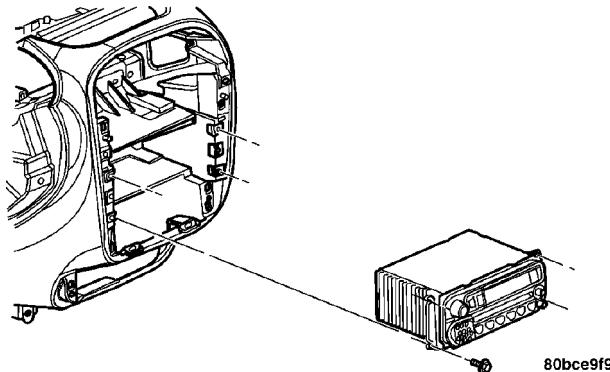

Fig. 4 Radio Remove/Install
(1) Disconnect and isolate the battery negative cable.
(2) Remove instrument panel center bezel (Refer to 23 - BODY/INSTRUMENT PANEL/INSTRUMENT PANEL CENTER BEZEL - REMOVAL).
(3) Remove four mounting screws on the radio and pull out of instrument panel (Fig. 4).